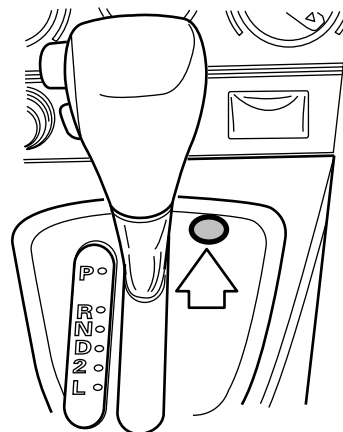

FIGURE 11
2. Carefully pry the shift-lock override small, round cover from the floor-shift console located to the right of the shift lever (figure 11).
4. While maintaining brake application, move the shift lever into Neutral (N).